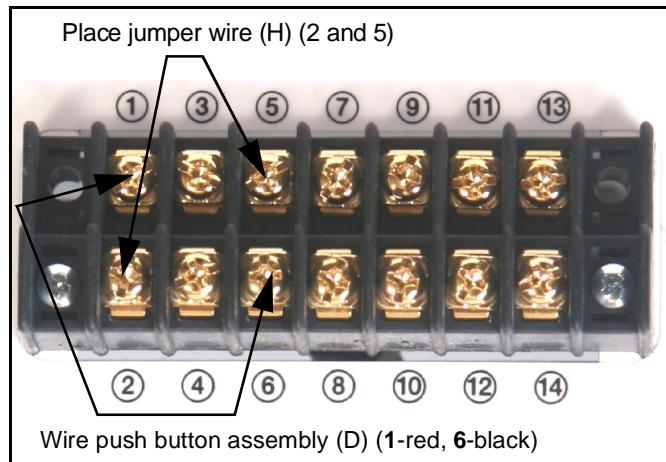

Figure 3
5. Place the jumper wire (H) on the external wiring terminal contacts labeled **2** and **5**, and wire the push button
assembly (D) to contacts **1 (red)** and **6 (black)**. (See Figure 3).